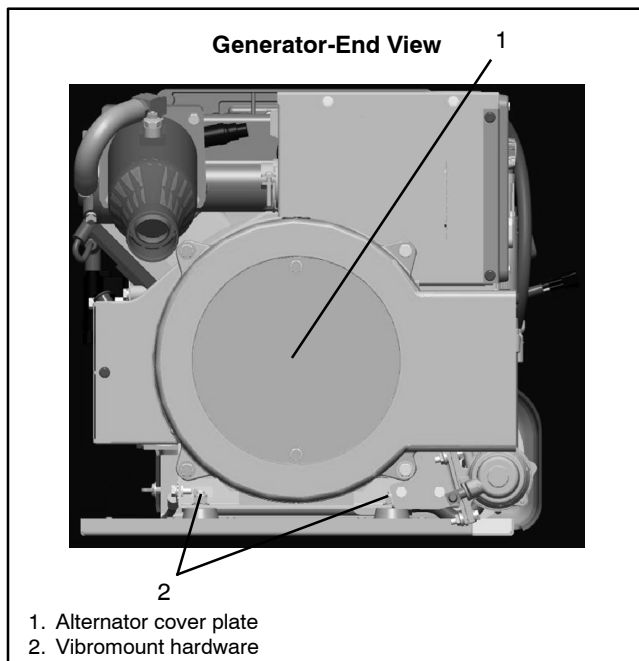

Figure 6-3 Alternator End Cover
15. Remove the end bracket cover plate. See Figure 6-3.
18. Remove the generator end vibromount hardware. See Figure 6-3.